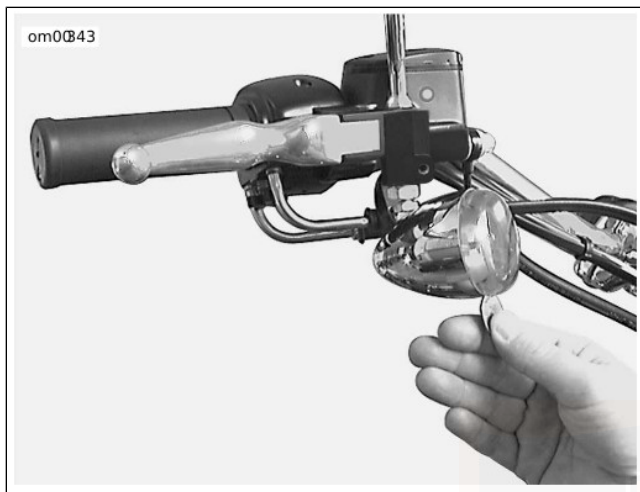

Figure 55. Lens Cap Notch
1. See Figure 55. To access the front or rear turn signal bulbs for replacement, locate a notch on the turn signal lens cap.